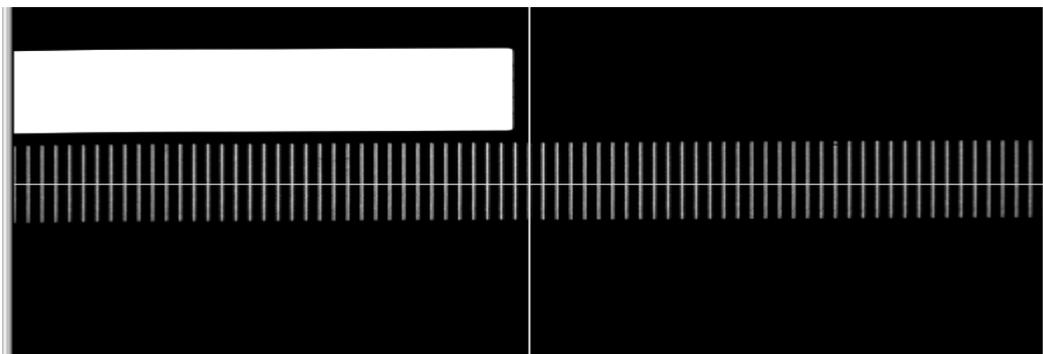

Fig. 5-178 Correct orientation of calibration sample for X scanner calibration (Axioplan 2ie)
- The calibration standard has to be positioned as indicated in Fig. 5-178.
- After calibration of X-axis the orientation of the calibration grid in the calibration window changes from horizontal to vertical orientation. The second grid of the calibration sample has to be selected and again positioned as indicated in Fig. 5-178.